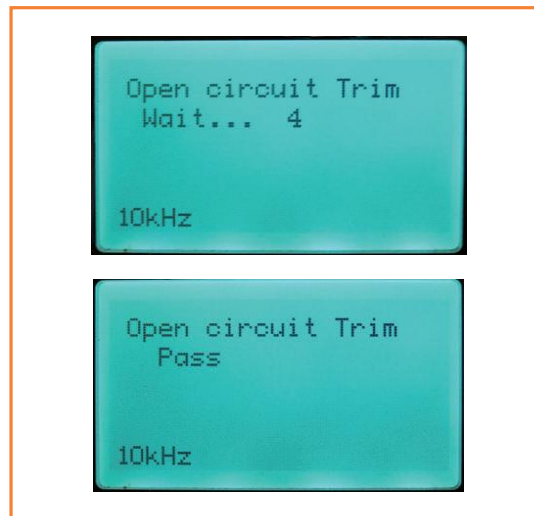

Figure 7.
**Trim:** Pressing and holding this key lets you run the compensation (*OPEN - SHORT*) (**Figure 7**). Compensations are performed for each frequency. If  $|Z|$  is  $< 10\ \Omega$ , the SHORT calibration is performed.